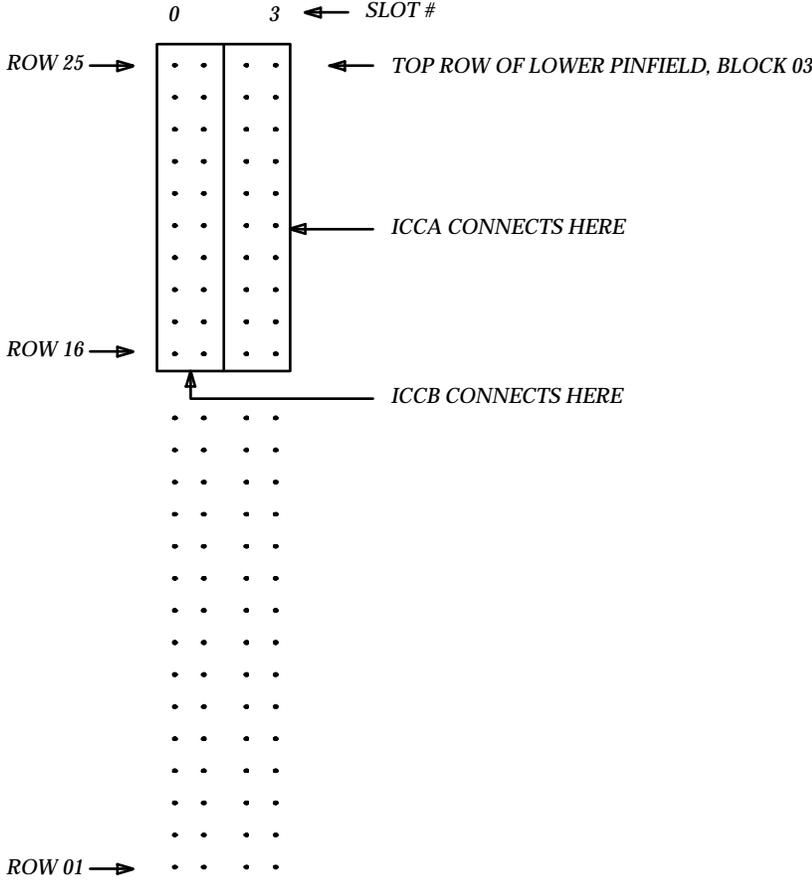

FIGURE 4-25. ICC Connectors "B" Carrier
13. Connect the ICC cables (H600-204 Gr1) to the “B” carrier using Table 4-H and Figure 4-25. There is no marking on the “B” carrier for the pin block that is used. Use the pin block associated with slot 03. Orient the cables to coincide with the installation on the “A” carrier, the left half to the left half and the right half to the right half with the dark (red, blue, or purple depending on the supplier) stripe on the bottom.